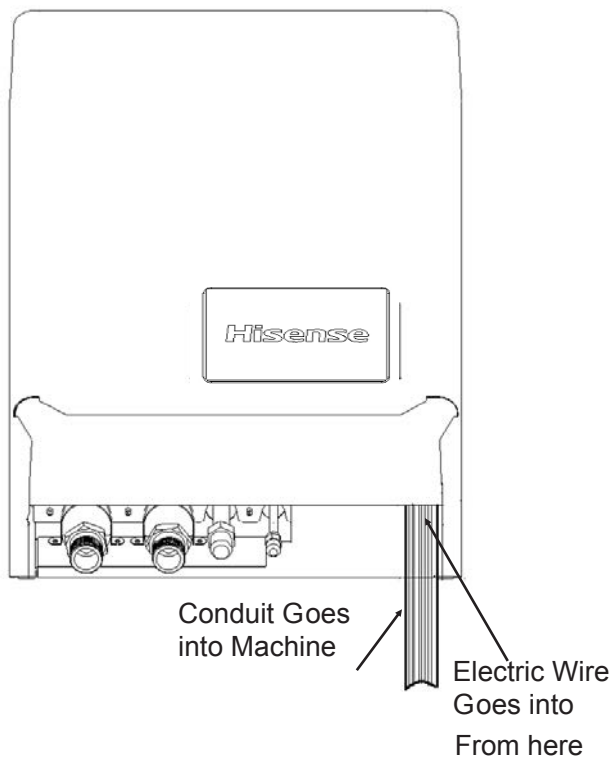

Fig.8.1 Electric Wiring Location Diagram
(1) See holes linking electric wire in water module in Fig.8.1.